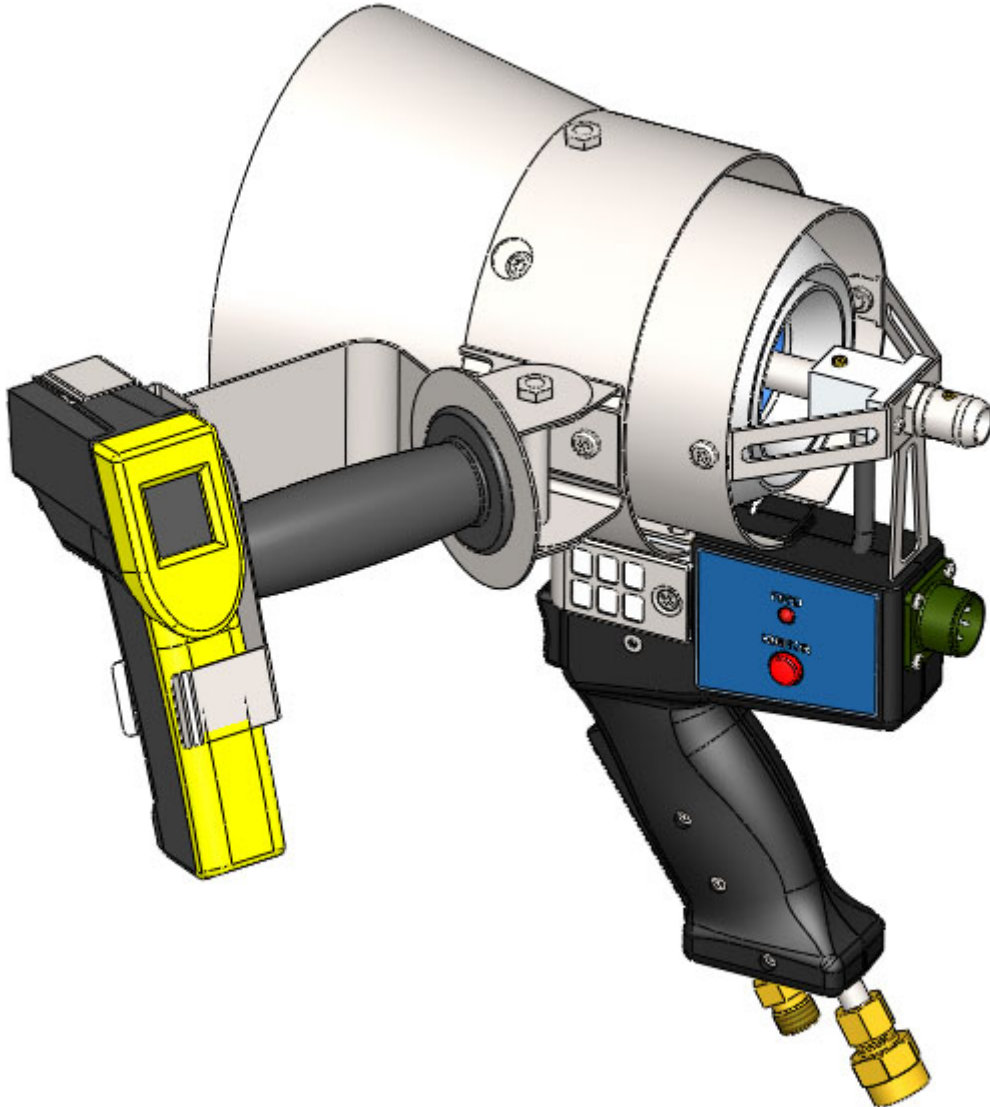

Figure 4: Auxiliary Handle
The applicator can be equipped with an auxiliary handle (Figure 4) with an Infrared (IR) temperature sensor. This optional handle assembly can be used to verify the temperature of the substrate surface being heated during the coating process.